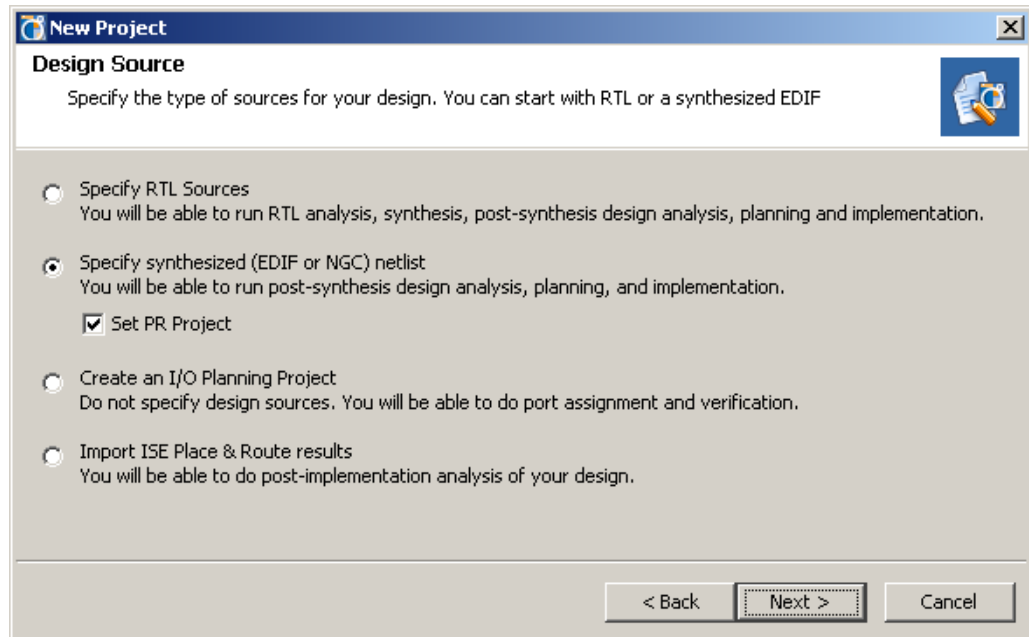

Figure 4-1: New Project Wizard
1. Launch the New Project Wizard and, after specifying a project name and location, Import a synthesized (EDIF or NGC) netlist. PR projects cannot start at the RTL level in the PlanAhead software. Figure 4-1 shows the New Project Wizard.